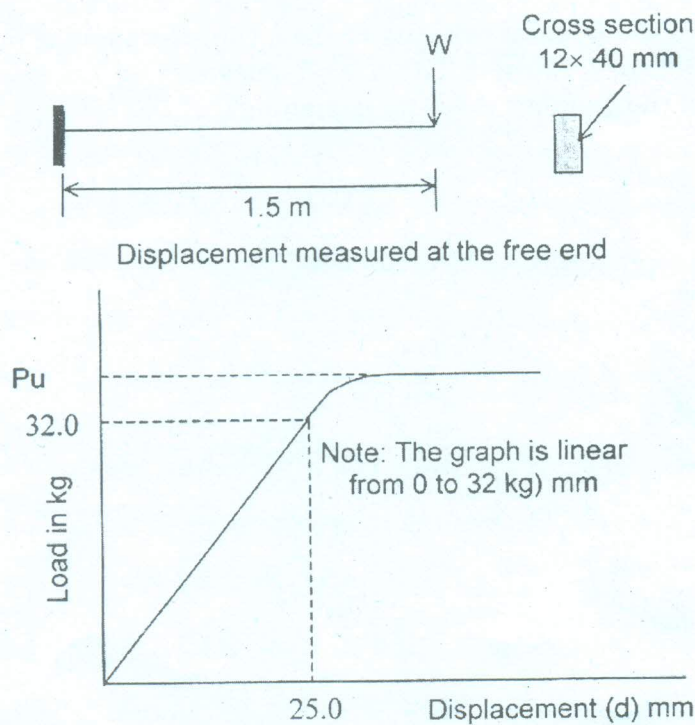

Fig. 3.
- (b) A self supporting steel chimney is 100 m height and its diameter at top is 2.5 m. Design the following (i) thickness of the plates for the chimney (ii) base plate (iii) Lugs (iv) Anchor bolts. The wind pressure on steel chimney at different elevations are as follows : up to 30 m height 1.75 kN/m2 ; at 40 m height 1.52 kN/m2 ; at 50 m height 1.6 kN/m2 ; at 60 m height 1.63 kN/m2 at 70 m height 1.68 kN/m2 ; at 80 m height 1.70 kN/m2 ; at 90 m height 1.73 kN/m2 ; at 100 m height 1.76 kN/m2. (16)
14. (a) Figure 3 shows an annealed mild steel cantilever beam and the associated results obtained from a load test. Calculate the values of Young's modulus and yield stress for the material. Also calculate the expected value of ultimate load, the extreme fibre strain at the support when the beam is supporting 10 kg. When load reaches the ultimate load, over what distance does the region of plasticity extend. (16)